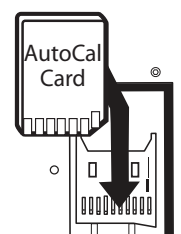

Fig. 2
2. Insert the Auto-Calibrate Card into receptacle. Make sure it is properly inserted and seated in the receptacle. The contacts on the card face outward (toward the rear of the machine), and the card must "click" into place. (**Fig. 2**).
3. Remove the Decoder Plate from the storage pocket on the back of the machine (Fig. 1). Loosen the Quick Nut (Fig. 2). Place the Decoder Plate on the Cutter Shaft, at the outside of the cutter (to the left) and tighten the Quick Nut (Fig. 3) NOTE: It is not necessary to remove the Quick Nut to mount the Decoder Plate.